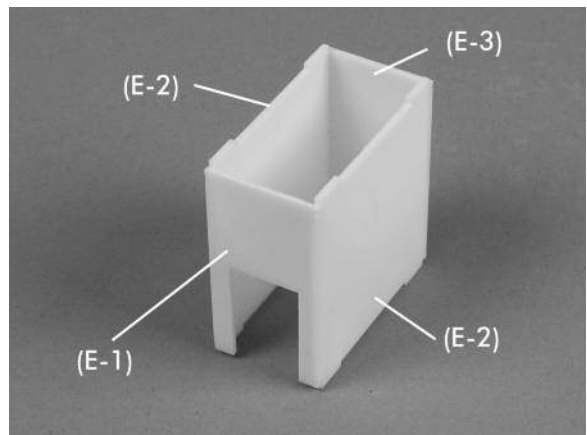

Figure 4
Assemble the first floor elevator shaft. Glue parts (E-1), two parts (E-2) and (E-3) together to form a box. The two parts (E-2) fit between parts (E-1) and (E-3). Dry fit the elevator shaft into the slots on part (A) while the glue is still soft so that it will dry square. When the glue has completely hardened remove the elevator shaft and block sand to get sharp corners. See Figure 4.